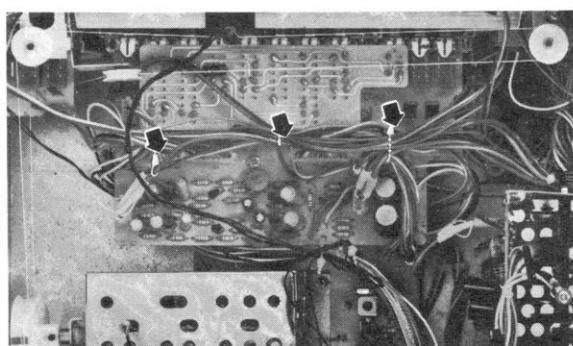

Fig. 26
- 3) Cut the cable in four places. (Refer to Fig. 26)